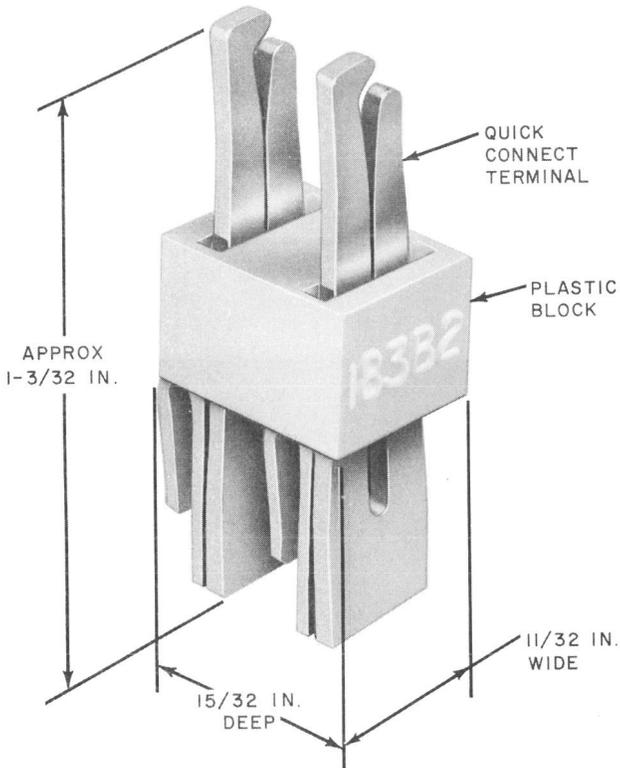
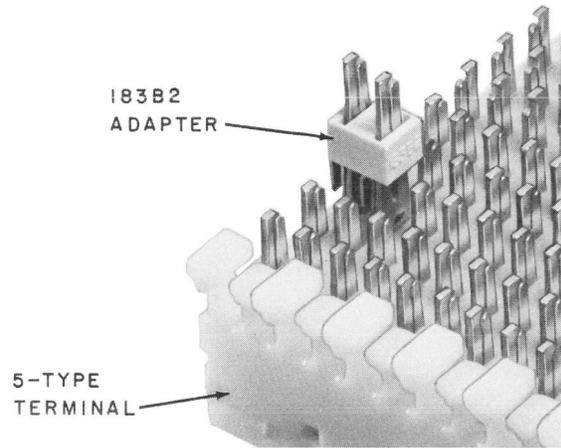

Fig. 14—183B2 Adapter
Fig. 15—183B2 Adapter Placed on 5-Type Terminal
3.04 A 183B2 Adapter (Fig. 14) is available for providing multiple connections on the 5-type terminal as shown in Fig. 15.